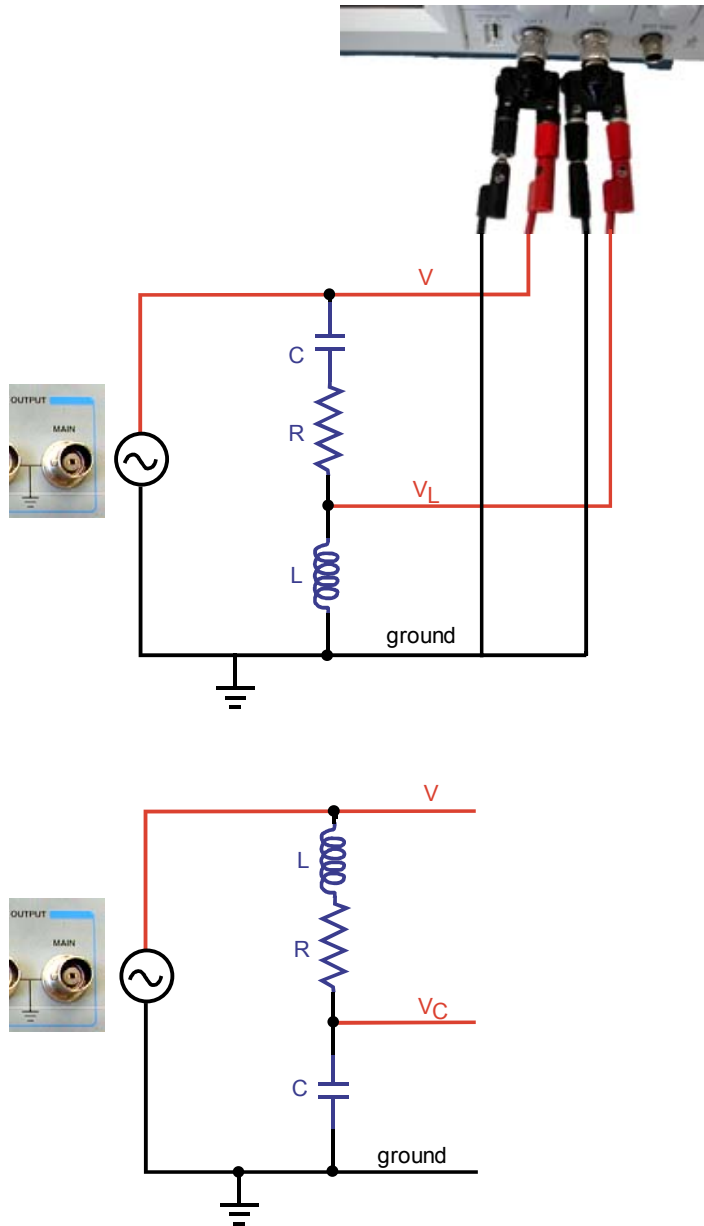

Figure 11-10. Schematic diagrams:
- Interchange the inductor and resistor (see the upper part of Figure 11-10.)
- Interchange the inductor and capacitor (see the lower part of Figure 11-10)